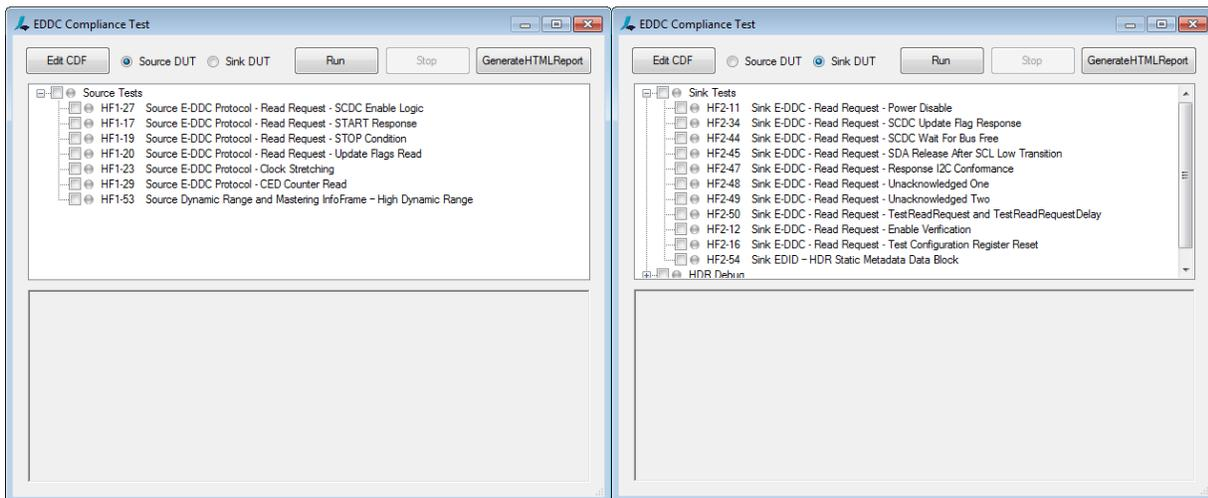

Figure 4.1. EDDC (SCDC) Compliance Test Windows
1. From the AVG software main window of your test computer (Figure 3.16), click EDDC (SCDC) Compliance Testing. The EDDC Compliance Test window appears (Figure 4.1).
4. After editing CDF variables, choose the items from the Source Tests area or the Sink Tests area (Figure 4.1). Click Run to run the selected items.
- When the EDDC compliance test completes, you can get a report file in HTML format by clicking the Report button (Figure 4.1). Following is a sample report (Figure 4.9).